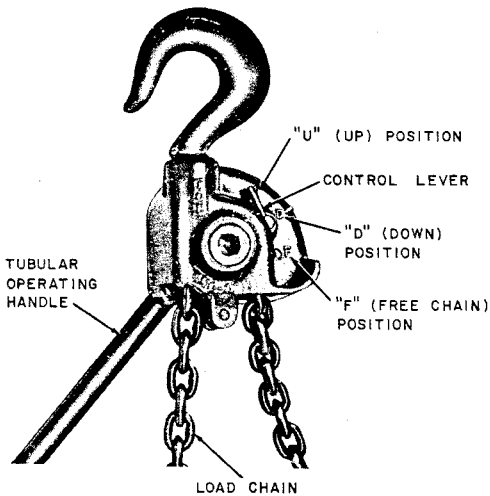

Fig. 3—Control Lever
**4.01** To obtain free chain with no load, turn control lever (Fig. 3) to F (Free) and raise handle slightly. Chain may now be moved in either direction.
**4.02** To lift the load (or apply tension), turn control lever (Fig. 3) to U (Up) and actuate handle. Slack may be removed from the chain by pulling the ring end of the chain.
**4.03** To lower the load, turn control lever (Fig. 3) to D (Down) and actuate handle. The control lever will oscillate during the lowering operation.